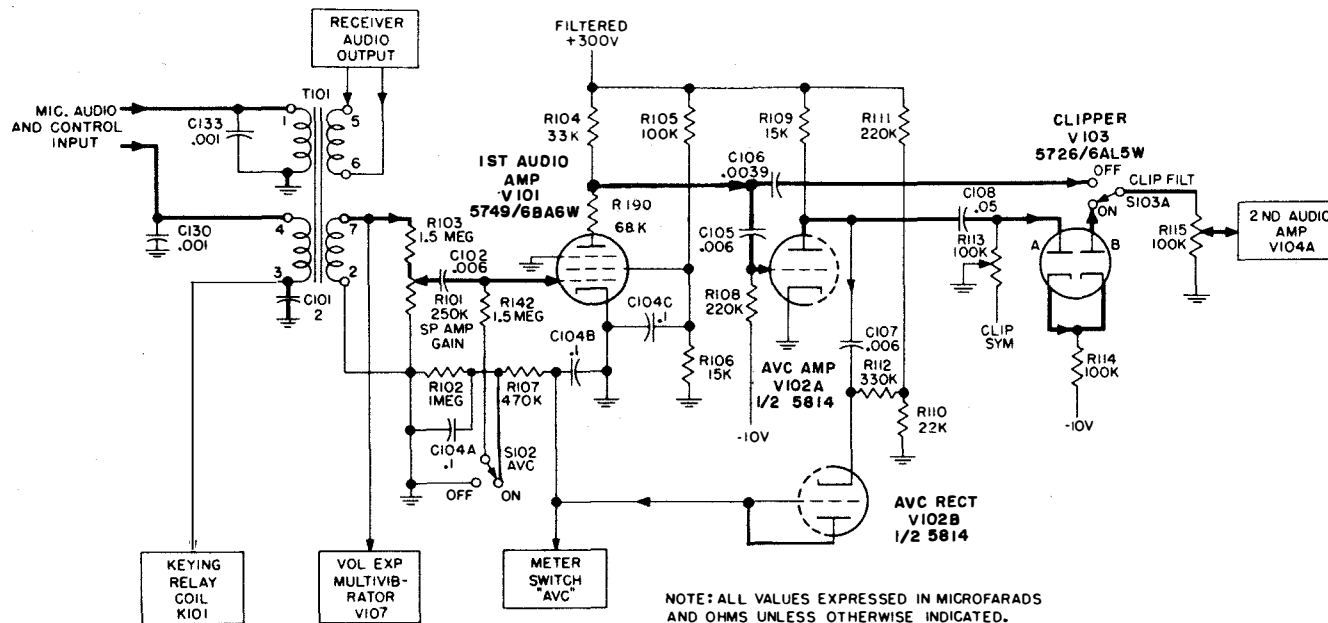

Figure 2-5. First Audio Amplifier, AVC, and Clipper Circuits, Simplified Schematic Diagram
(1) **FIRST AUDIO AMPLIFIER.**—The first audio stage employs V101, a 5749/6BA6W pentode, as a resistance-coupled, high-gain voltage amplifier; see figure 2-5. The audio input signals from the microphone or handset are coupled across input transformer T101 and developed across R103 and R101. The latter serves as the SP AMP (speech amplifier) gain control. The signal then reaches the grid of V101 via capacitor
(2) **AVC AMPLIFIER AND RECTIFIER.**—As shown in figure 2-5, the AVC amplifier is V102A, one half of a 5814 twin triode. A conventional resistance-coupled circuit is employed, in which fixed bias of -10 volts is applied to the grid through R108. The output signal, developed across plate load R109, is coupled to clipper V103 by C108 and to the cathode of the AVC rectifier by C107.
(4) SECOND AUDIO AMPLIFIER. — As shown in figure 2-5, the input to the second audio amplifier, V104A, may be obtained from either of two sources. With CLIP-FILT switch S103 in the ON position, the input is obtained from the clipper stage, V103. With S103 in the OFF position, the input is obtained from the first audio amplifier (V101) through C106. In both cases, the input voltage to this stage is varied by potentiometer R115, which functions as the MOD (speech modulation) level control.